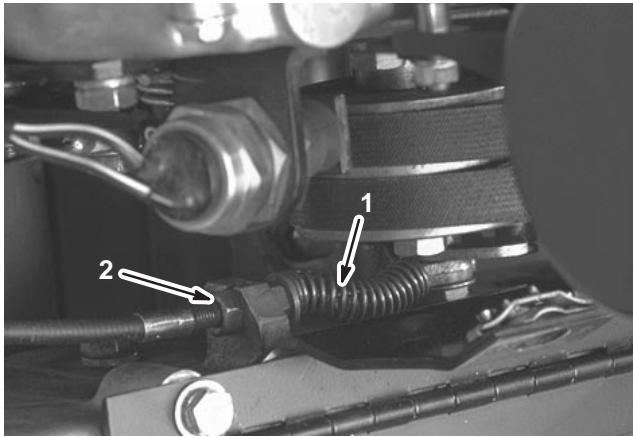

Figure 43
2. Loosen the retainer securing the V-belt cover and pivot the cover open (Fig. 43).
3. To increase the cable tension, loosen the front cable jam nut and tighten the back cable jam nut (Fig. 43) until a force of 3 to 5 lb. is required to engage brake. Measure the force at the lever knob. Do not over adjust it so that the brake band drags.